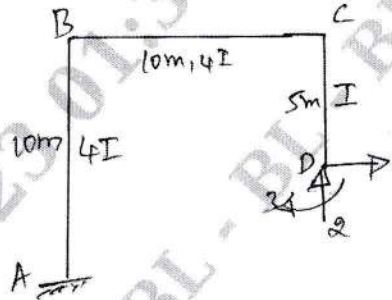

Fig.Q.3(b)
b. Using the transformation approach, develop the global flexibility matrix for the portal frame with respect to the system coordinates shown in Fig.Q.3(b).